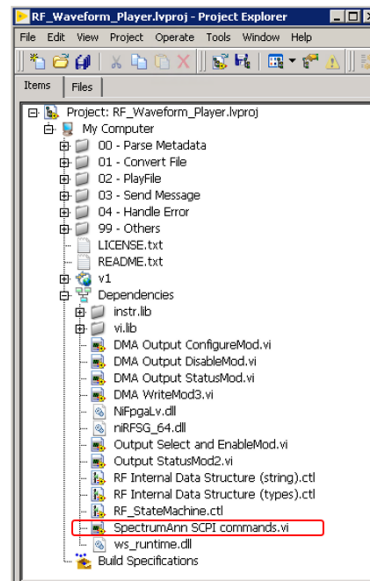

Figure 9: Location of SCPI commands
- Locate and open the "SpectrumAnn SCPI commands.vi" as shown in Figure 9.